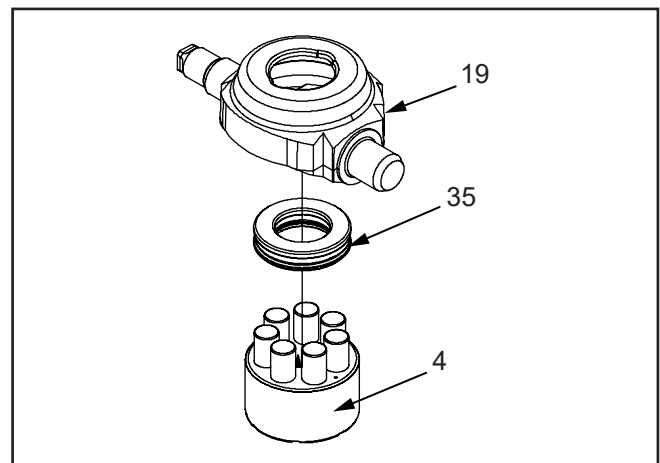

Figure 18.
8. **(See Figure 18)** Disassemble the pump cylinder block (4) from the swashplate (19).
12. **(See Figure 18)** Place the pump block assembly (4), pistons down, on top of the thrust bearing in the swashplate (19).